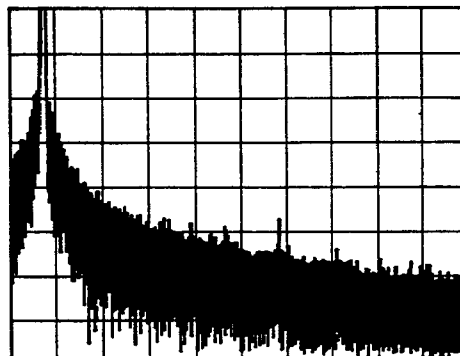

Figure 4-7. Spurious Test Spectrum Analyzer Display (321.8 MHz, 50kHz/Division, 1 kHz Bandwidth)
4. Set the Generator frequency to 320.0 MHz and amplitude to 0.0 dBm. Set the spectrum analyzer input attenuator to the minimum attenuation allowable with a 0 dBm input signal. Adjust the tuning so the signal is centered on the second vertical graticule line from the left of the screen. Use 50 kHz resolution and 1 kHz bandwidth settings. Set the reference level to -40 dBm. The display should be as shown in Figure 4-7.